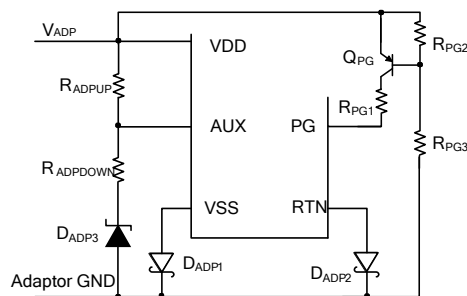

Figure 5: Wall Adapter Detection Circuit
When an auxiliary power source, such as a wall power adapter, is used to power the device, the divider resistors, R_{ADPUP} , $R_{ADPDOWN}$, and D_{ADP3} should be chosen to satisfy Equation (1) for correct wall power adapter detection (see Figure 5).
If one adapter power less than 11.5V is connected to supply the converter, the PG function cannot work with such a low input. The external PG pull-up circuit is recommended (see Figure 5). Typically, Q_{PG} requires a V_{CE} voltage higher than 100V, such as BSS63LT1. Choose $R_{PG2} = 7.5k\Omega$ and $R_{PG3} = 100k\Omega$ for a 12V adapter with some adapter regulation margin, and choose $R_{PG1} = 100k\Omega$ to limit the PG sink current.